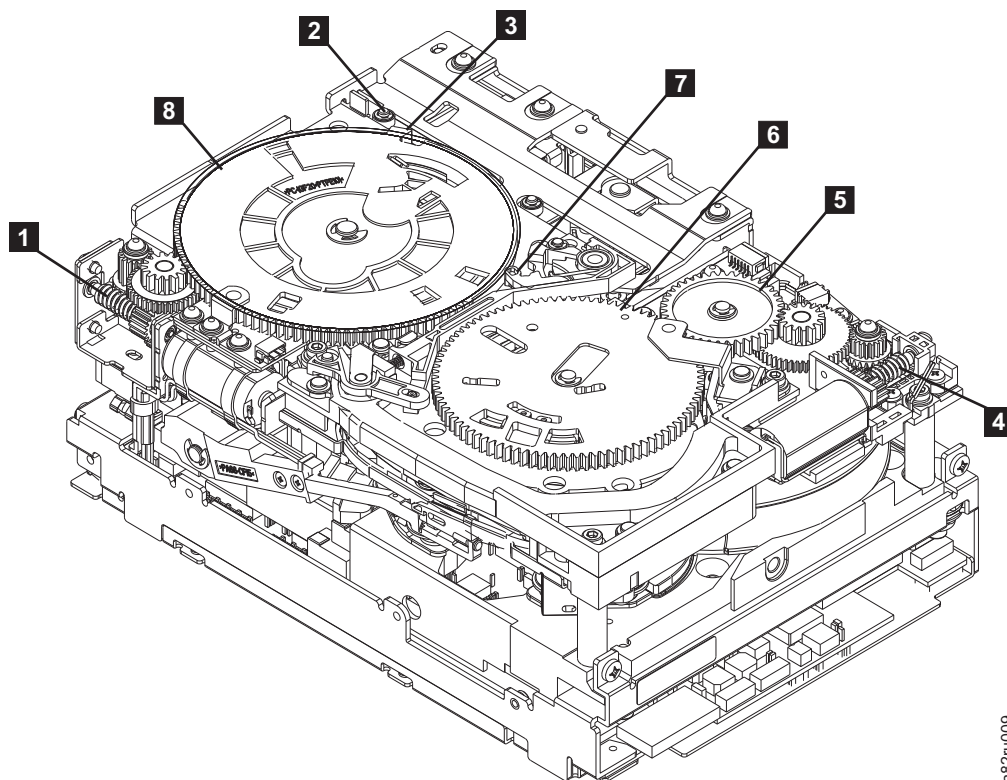
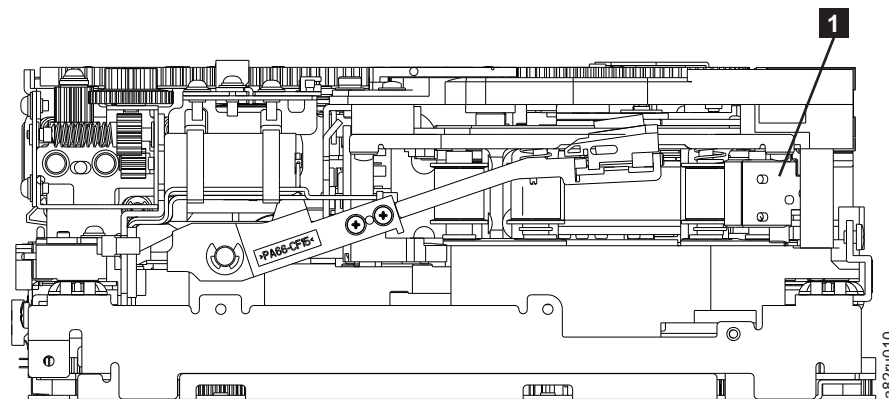

Figure E-7. Drive with cover removed to reveal gear train.
Figure E-8. Leader Block Assembly (LBA)
3. Locate the threader motor worm gear (**4** in Figure E-7) the rear of the drive. Use your finger to rotate the threader motor worm gear and slowly rotate the threader mechanism gear (**6** in) clockwise.. This rotates the threader motor worm gear (**4** in Figure E-7) clockwise, drawing the tape leader block assembly (LBA) into the cartridge.
4. As the LBA is secured in the cartridge, you should hear the LBA retention spring clips click into place. If you do not hear the click, continue rolling until the threader motor worm gear (**4** in Figure E-7 on page E-8) stops. The LBA is in the correct position.
- a. Loader mechanism gear (**8** in Figure E-7 on page E-8) nearest the front of the drive that actuates the cartridge loader mechanism
- b. Position of the rotator stub (**3** in Figure E-7 on page E-8).
- c. Front loader motor worm gear (**1** in Figure E-7 on page E-8). Rotating this gear allows the loader mechanism gear (**8** in Figure E-7 on page E-8) to turn.
6. Rotate the loader motor worm gear (**1** in Figure E-7 on page E-8) to turn the loader mechanism gear (**6** in Figure E-7 on page E-8) counterclockwise. Continue turning until the rotator stub (**3** in Figure E-7 on page E-8) loses contact with the lever (**7** in Figure E-7 on page E-8). This releases the LBA leader pin.
7. Rotate the threader motor worm gear (**4** in Figure E-7 on page E-8) to turn the threader mechanism gear (**6** in Figure E-7 on page E-8) counterclockwise. This moves the LBA out of the cartridge and past the read/write head. Stop this rotation when the LBA is near the tape guide roller nearest the rear of the drive (**1** in Figure E-8).
8. Continue rotating the loader motor worm gear (**1** in Figure E-7 on page E-8) until the rotator stub (**3** in Figure E-7 on page E-8) is positioned as shown. Notice that the rotator stub (**3** in Figure E-7 on page E-8) is nearly aligned with the cartridge loader tray guide bearing (**2** in Figure E-7 on page E-8).